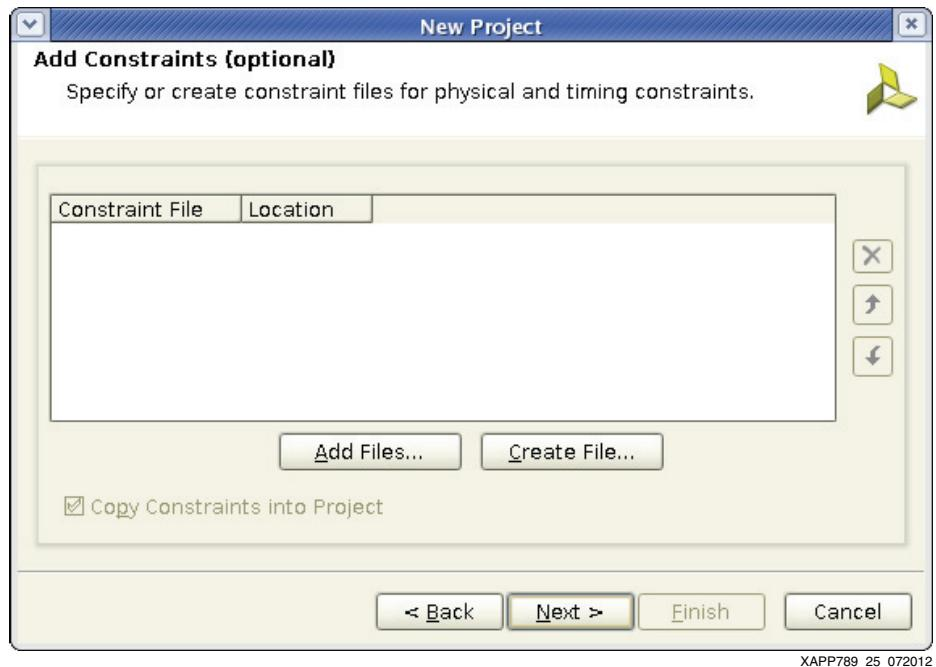

Figure 25: New Project Window (Add Constraints)
10. Click **Next** in Add Constraints window (Figure 25).